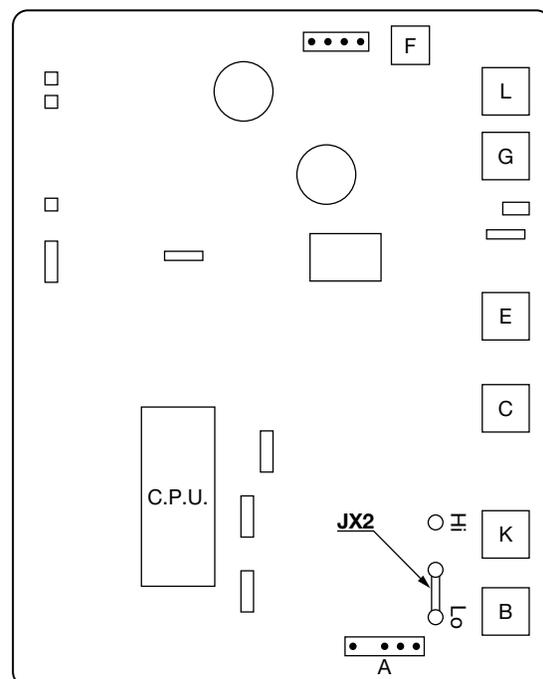

Figure 2-13 MAIN CIRCUIT BOARD
- Change jumper wire "JX2" (See Fig. 2-13) from "Lo" position to "Hi" position, this will result in reduction of fuel flow of approximately 10% or change wire position to High Altitude post.